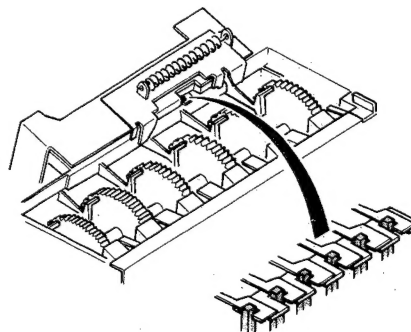

Fig. 20
- 7) Check to see if the lever (gear stopper) is properly inserted into the plate. (See figure 20)